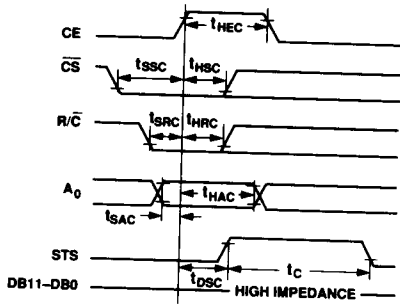

Figure 1. Converter Start Timing
- See Figures 1, 2, 3 and 4 for timing information.